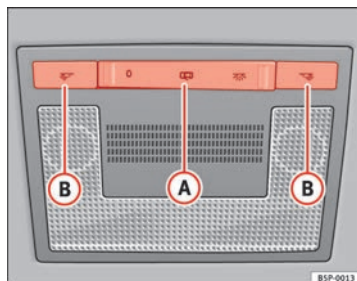

Fig. 79 Interior roof trim:
The switch ⇒ Fig. 79 (A) is used to select the following positions:
Push the switch to position 0 ⇒ Fig. 79.